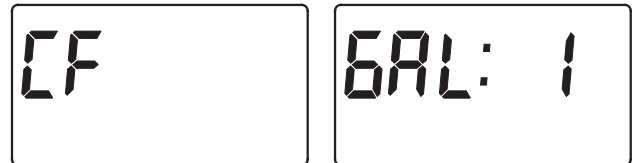

FIG. 29
4. **CHEMICAL FEEDER TRIP VOLUME:** If you have set the auxiliary output control to CF (Chemical Feeder), you will need to set the volume of water which must flow past the turbine* before the auxiliary output is turned on. With the alternating screens in Fig. 29 shown, use the $\triangle$ UP or ∇ DOWN buttons to set the trip volume, in gallons. Then press the SELECT button to display the screen shown in Fig. 30.